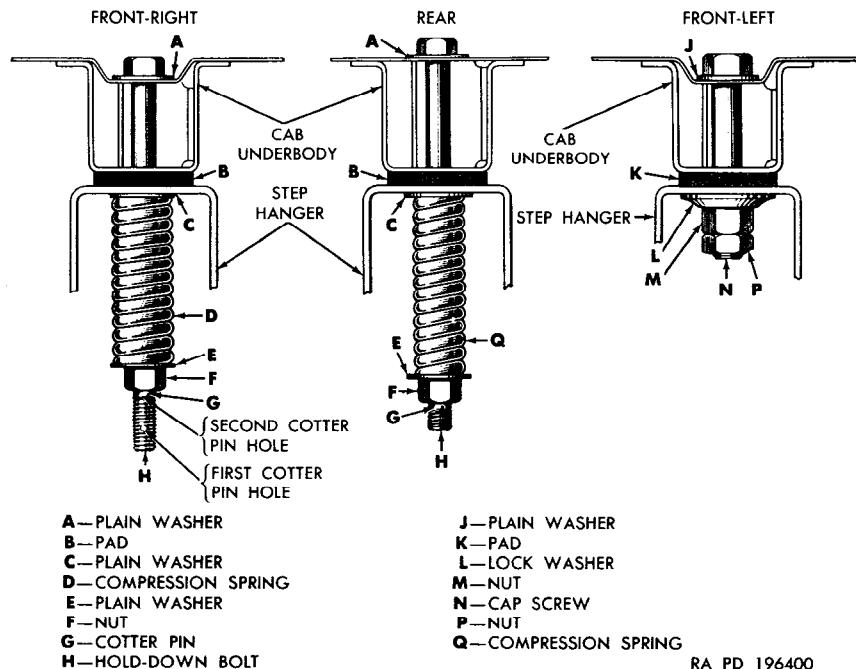
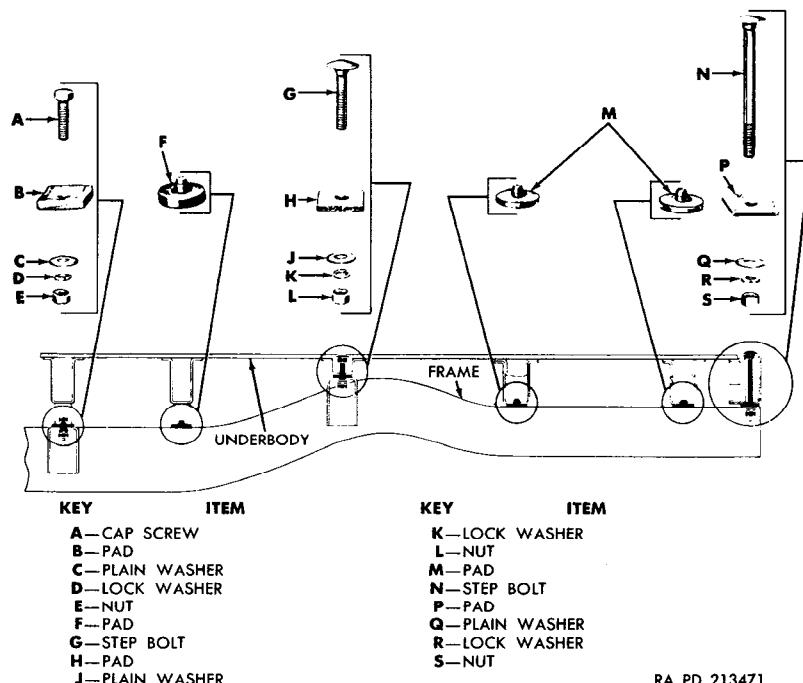
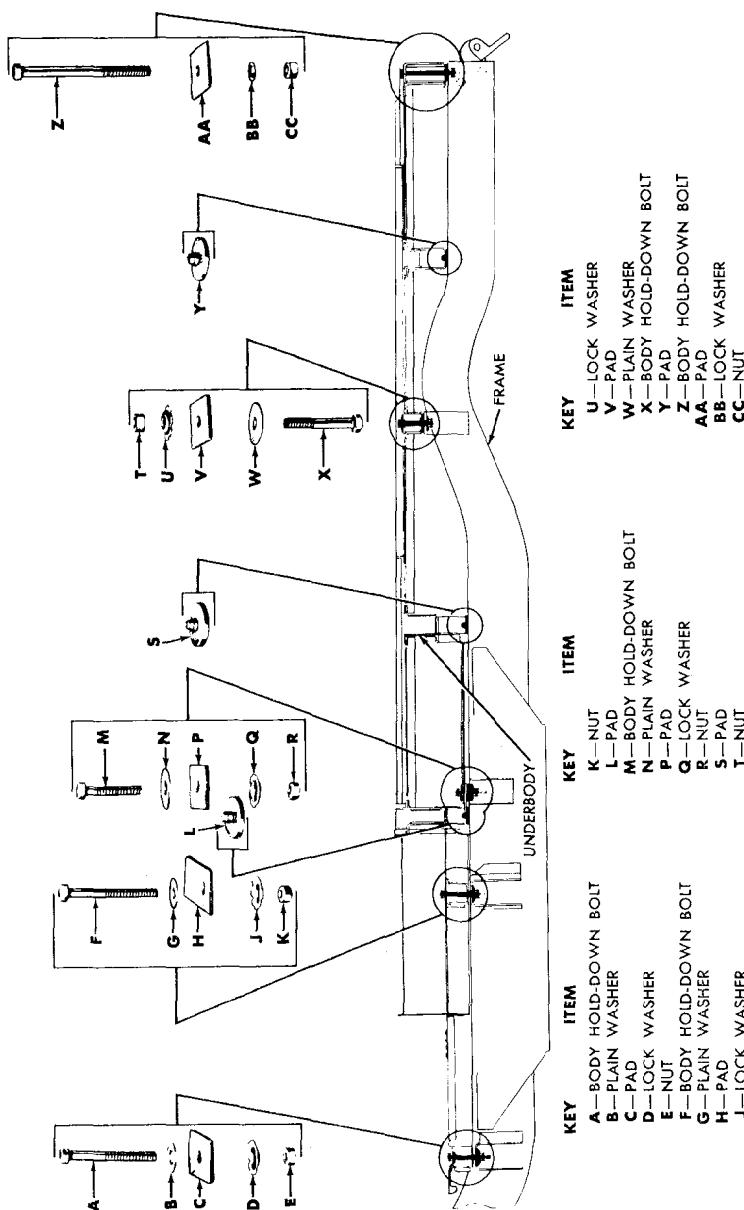

Figure 210. Cab holdown bolts and related parts.
Figure 211. Body holdown bolts and related parts (cargo truck M37, command truck M42).
Figure 212. Body hold-down bolts and related parts (ambulance truck M43).
b. *Replacement*. Remove broken or damaged parts and install new parts as required. Figure 210 shows holdown bolts and related parts for the cab. Figure 211 shows body holdown bolts and related parts for the cargo truck M37 or command truck M42. Figure 212 shows body holdown bolts and related parts for the ambulance truck M43 and figure 213 shows body holdown bolts and related parts for the telephone maintenance truck V-41. Refer to the correct illustration for the parts to be replaced and the sequence of removal and installation. Tighten all parts.